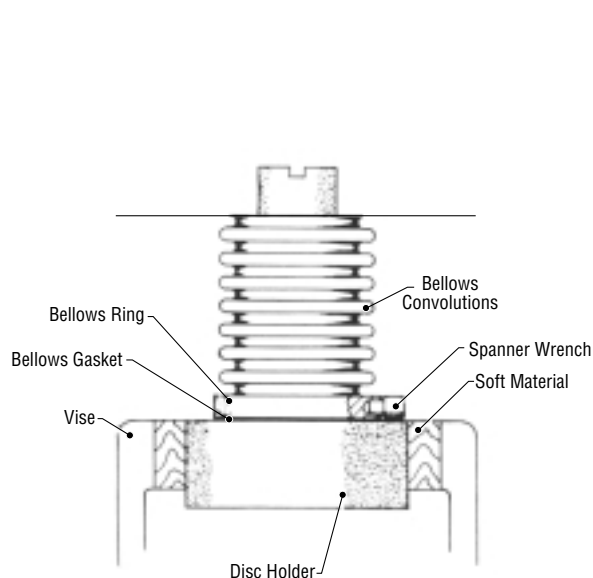

Figure 7
The bellows is attached to the disc holder by right-hand threads. Apply a pin spanner wrench to the bellows ring and loosen bellows by turning counter-clockwise (Fig. 7). The bellows convolutions are very thin metal and care should be taken to protect them from damage at all times. Remove bellows gasket.
5. On bellows valves (see Fig. 7), place a new bellows gasket on the disc holder. Thread the bellows down to the gasket finger tight on the disc holder. Using a pin spanner wrench or special cable type wrench, turn the bellows ring down until a pressure tight seal is obtained.